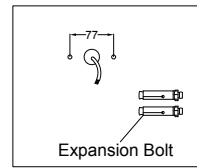

Figure 18
Step 2: Knock the expansion bolts into the wall. (Figure 18)